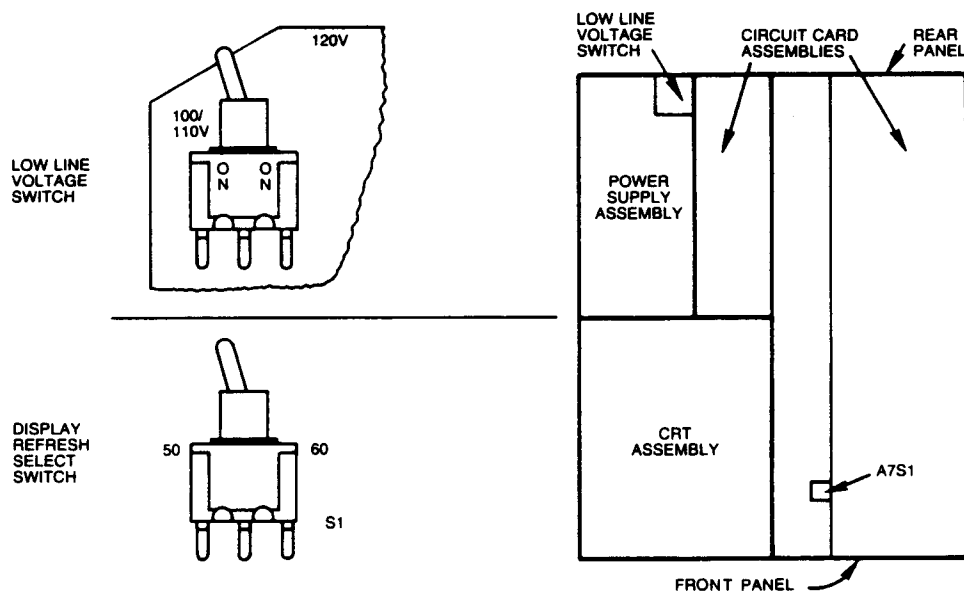

Figure 2-1. Location of Display Refresh Select and Low Line Voltage Toggle Switches
- c. There is a toggle switch located in the power supply for selecting low-line-voltage operation (Refer to Figure 2-1). For normal operation with both rear-panel slide switches in their proper positions, the toggle switch must be in the 120 volt position. For operation in areas where low line voltage is encountered (such as in Japan), the rear-panel slide switches must be in the 115 Vac position and the toggle switch must be in the 100/110 V position. If low line voltage is experienced in countries that normally employ 230 Vac line voltage, this toggle switch can be utilized in the 100/110 V position even if both rear-panel slide switches are in the 230 Vac position.
- d. There is a toggle switch located on circuit card A7 for selecting the display refresh update rate (Refer to Figure 2-1). For operation in areas that use 60 Hz ac power, switch A7S1, Display Refresh Select, should be set to the 60 Hz position. In areas that use 50 Hz power, place A7S1 in the 50 Hz position.